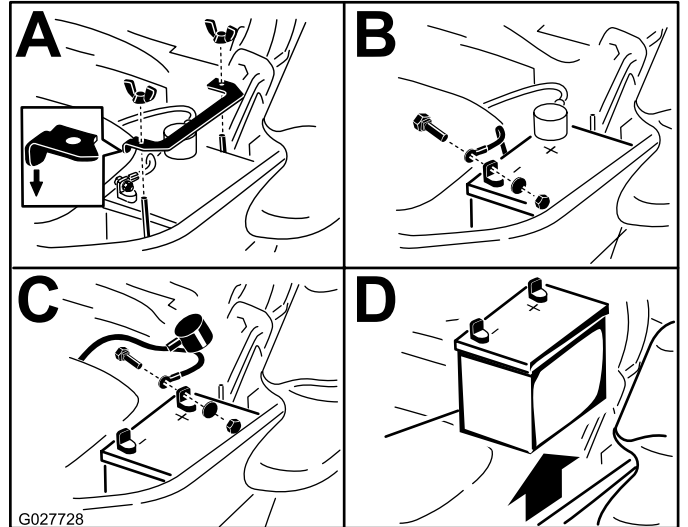

Figure 62
3. Remove the battery as shown in (Figure 62).
**Note:** Position battery in the tray with the terminal posts opposite from the hydraulic tank (Figure 62).